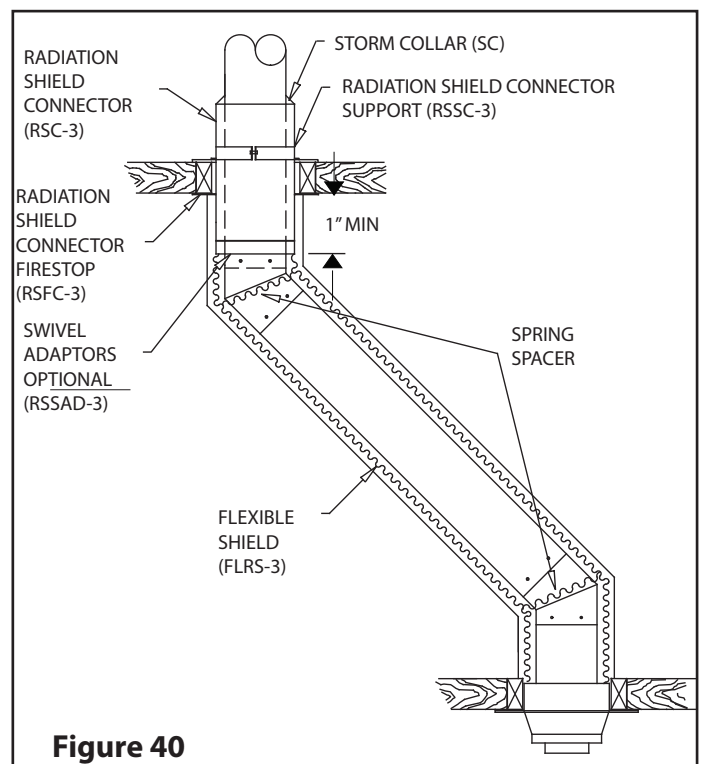

Figure 40
For Interior Enclosed installation only (Wood or Coal burning appliance (6", 7", and 8" dia. only)). (See **Figure 40)**
Step 7. Slide the Radiation Shield Connector down until the bottom of the insulated tube exceed the bottom of ceiling. Adjust the height until a minimum of (1") of the Radiation Shield Connector project below the ceiling and tighten the support collar around the shield connector (see **Figure 40**).
Step 9. Install the insulated offset elbow on the vertical chimney length. Turn it in the required direction and fasten it to the chimney with the (4)-1/2" metal screws provided.
Step 11. Use another elbow to turn the chimney vertically. Again secure the elbow to the chimney length using the (4)-1/2" metal screws.
- Attach a spacer spring around the chimney at each elbow to help keep the Flexible Shield centered. (See **Figure 40**)
Step 12. Slide the Flexible Shield up the chimney and attach it below the ceiling to the Radiation Shield Connector using (3) - 1/2" self tapping metal screws.
NOTE: If you are limited in space to be able to fix the screws that fix the FLEX (FLRS-3) to the Radiation Shield Connector, (RSC-3) install a Swivel Adaptor (RSSAD-3) (see **Figure 40**) below the Shield Connector (RSC-3) and one on the top end of the Flexible Shield.